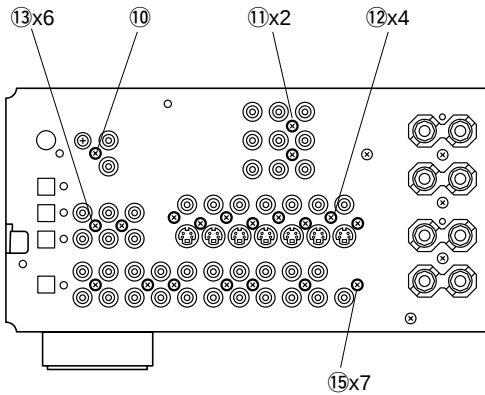

Fig. 4
- Remove 1 screw (⑩) and then remove the Input (4) P.C.B. in Fig. 4.
- Remove 2 screws (⑪) and then remove the Operation (5) P.C.B. in Fig. 4.
- Remove 4 screws (⑫) and then remove the Operation (3) P.C.B. in Fig. 4.
- Remove 7 screws (⑬ and ⑭) and then remove the Operation (2) P.C.B. in Fig. 4 and 5.
- Remove 8 screws (⑮ and ⑯) and then remove the Input (1)/(2) P.C.B. in Fig. 4 and 5.